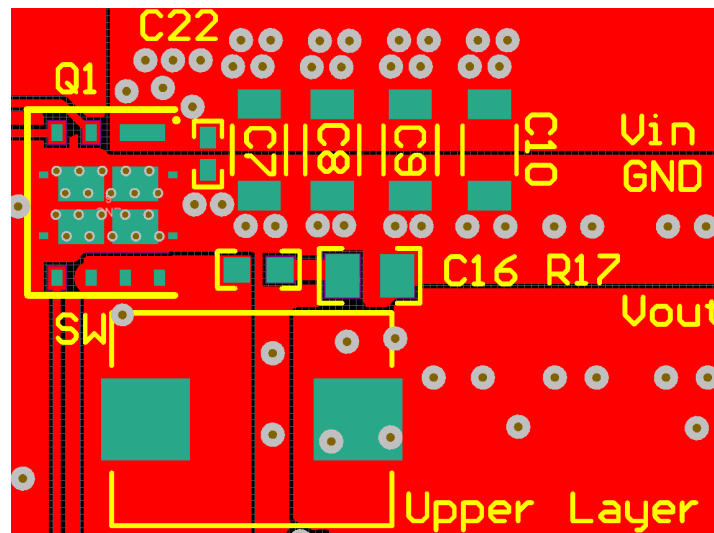
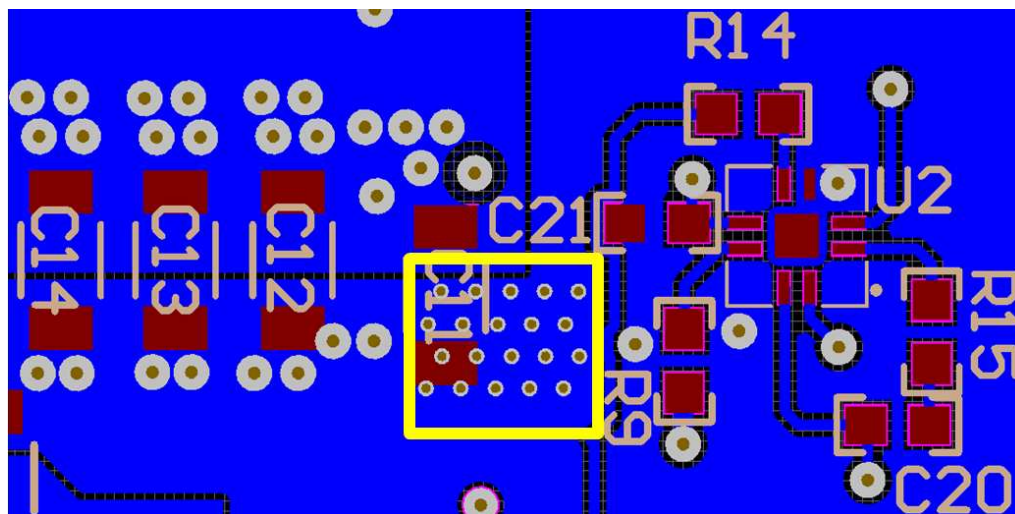

Figure 33. Recommended PCB Layout (Top Down View)
Figure 34. Recommended PCB Layout (Bottom View) ⁽²⁾
- Use the smallest drill size allowed in your design. The examples in Figure 33 and Figure 34 use vias with a 10-mil drill hole and a 16-mil capture pad.
(2) The yellow box on Figure 34 signifies an approximate location of the power block on the upper layer.